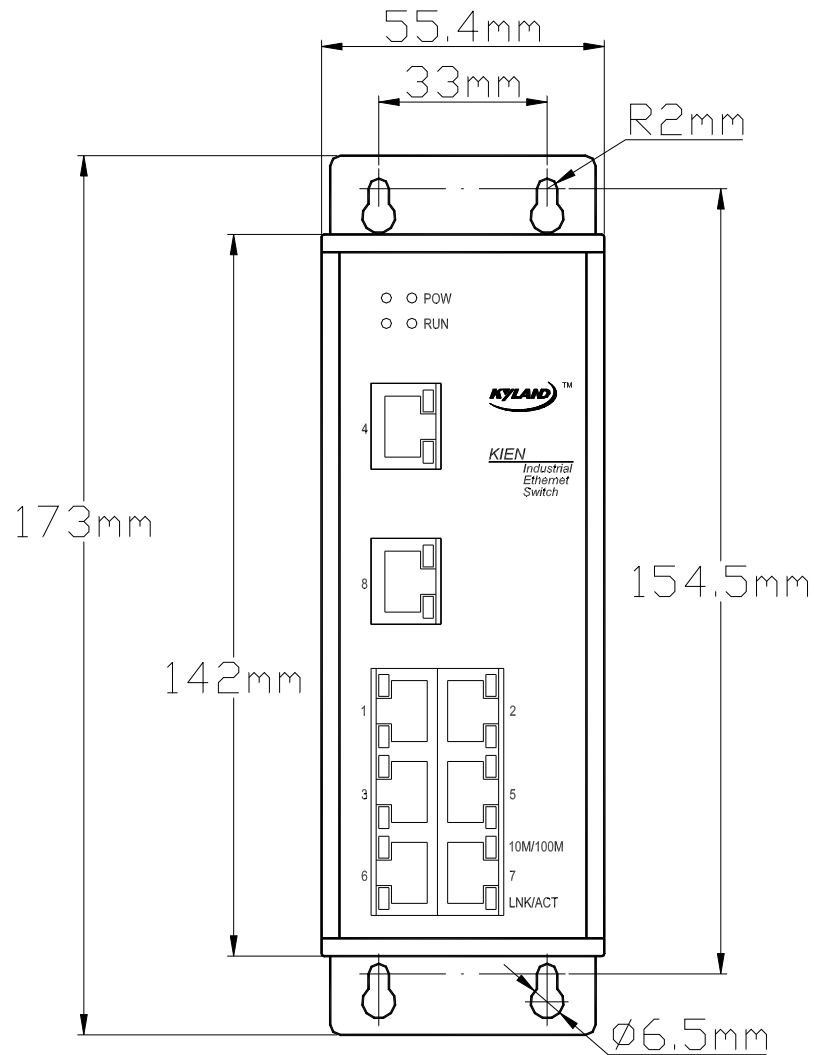

Figure 4-3 KIEN1000-PSE Wall-Mounting Dimensions
In case that DIN rail-type mounting is inconvenient, it is better to adopt wall mounting. KYLAND Telecom provides users with wall mounting boards that are mounting parts for mounting of KIEN1000-PSE industrial Ethernet switches. The size of wall mounting is showed in the Figure 4-3.
- 3 . Select a vertical wall or internal wall of the switch cabinet as the mounting position. If the vertical wall is selected, recommend to mount the switch with $\Phi 6$ plastic expansion bolts and $\Phi 3$ tapping screws. In accordance with the mounting size in the Figure 4-3, drill 4 $\Phi 6$ holes on the wall with a impact electric drill
with a depth that can completely contains the $\Phi 6$ plastic expansion bolts. Insert the plastic expansion bolts into holes on the wall and screw the tapping screws into the plastic expansion bolts with a cross head screwdriver. But do not screw them tightly and keep a space of about 5mm. If the internal wall of the switch cabinet is selected, recommend to open 4 M3 screw holes when the switch cabinet is manufactured in accordance with the mounting size in the Figure 4-3. Or drill $4\Phi 4$ holes with a electric portable drill on site. Screw four M3 \times 10 cross recessed pan head screws into 4 holes. If the holes have no threads, mount four M3 nuts on its back. At last, do not completely screw down screws and keep a space of 5mm.